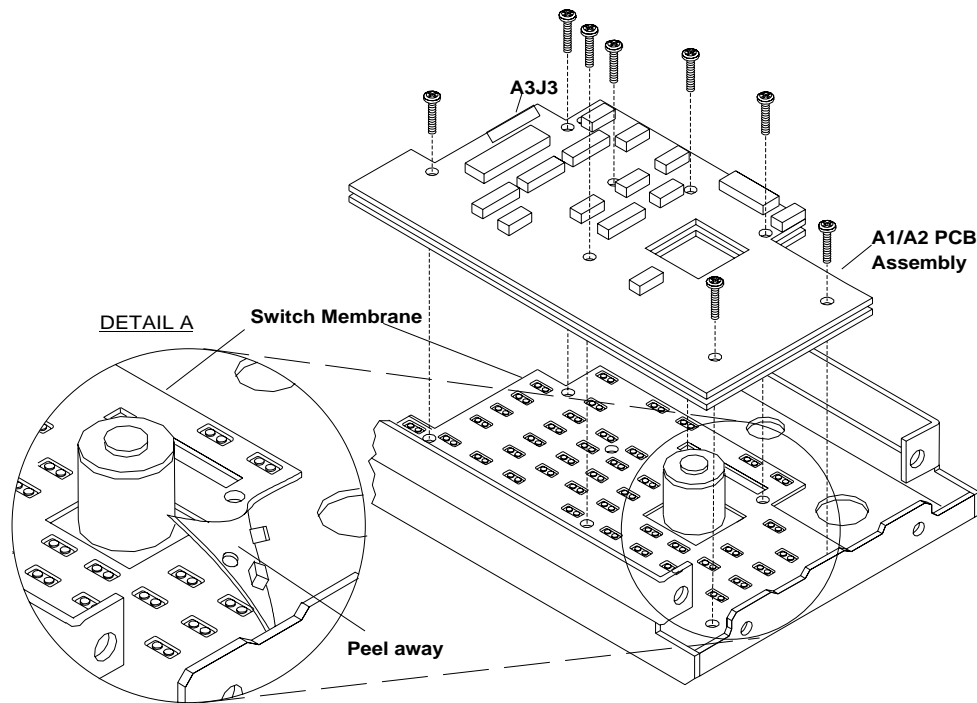

Figure 7-4. Exploded View of A2, A1, and A10 PCBs
- Step 1.** With the front panel assembly laying face up on the work surface (Figure 7-4), disconnect the cables at connectors A2J2 and A2J3 .
- Step 1.** With the key-switch membrane exposed, carefully peel it away from the inside of the front panel backplate (Figure 7-4, Detail A).
- Step 1.** With the front panel assembly laying face up on the work surface, disconnect the cable at connectors A2J3 (Figure 7-4).